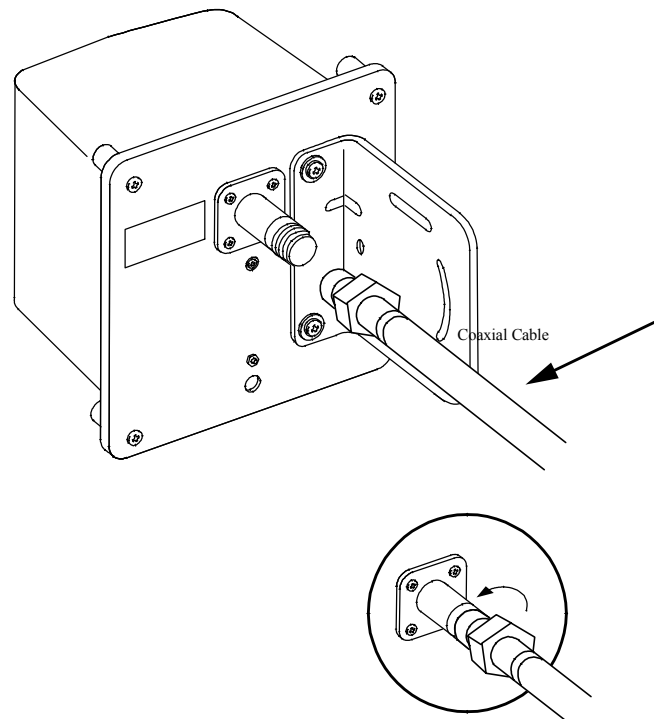

Figure 4-10 : Coaxial Cable Connection to Antenna
9. Connect the coaxial cable to the antenna as shown in Figure 4-10.